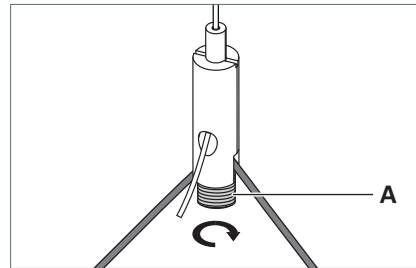

Fig. 26: Aligning the luminaire
- To align the luminaire, loosen the screws **A** of the wire rope holders, see Fig. 26.